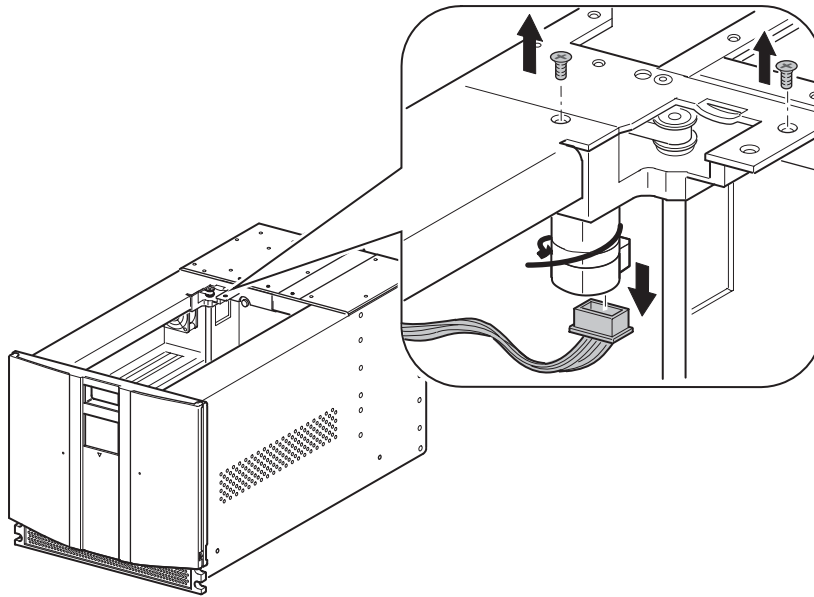

Figure 3-54: Motor cable
8. Remove the 7-pin connector from the rear vertical axis drive motor (see Figure 3-54).
12. Swing the vertical axis screw rail foot counter-clockwise to the rear of the library. The alignment pins on the robotics base should now be visible (see Figure3-54).
9. Attach the flex cable to the flex cable guide and carrier with the flex cable bracket (see Figure 3-54).